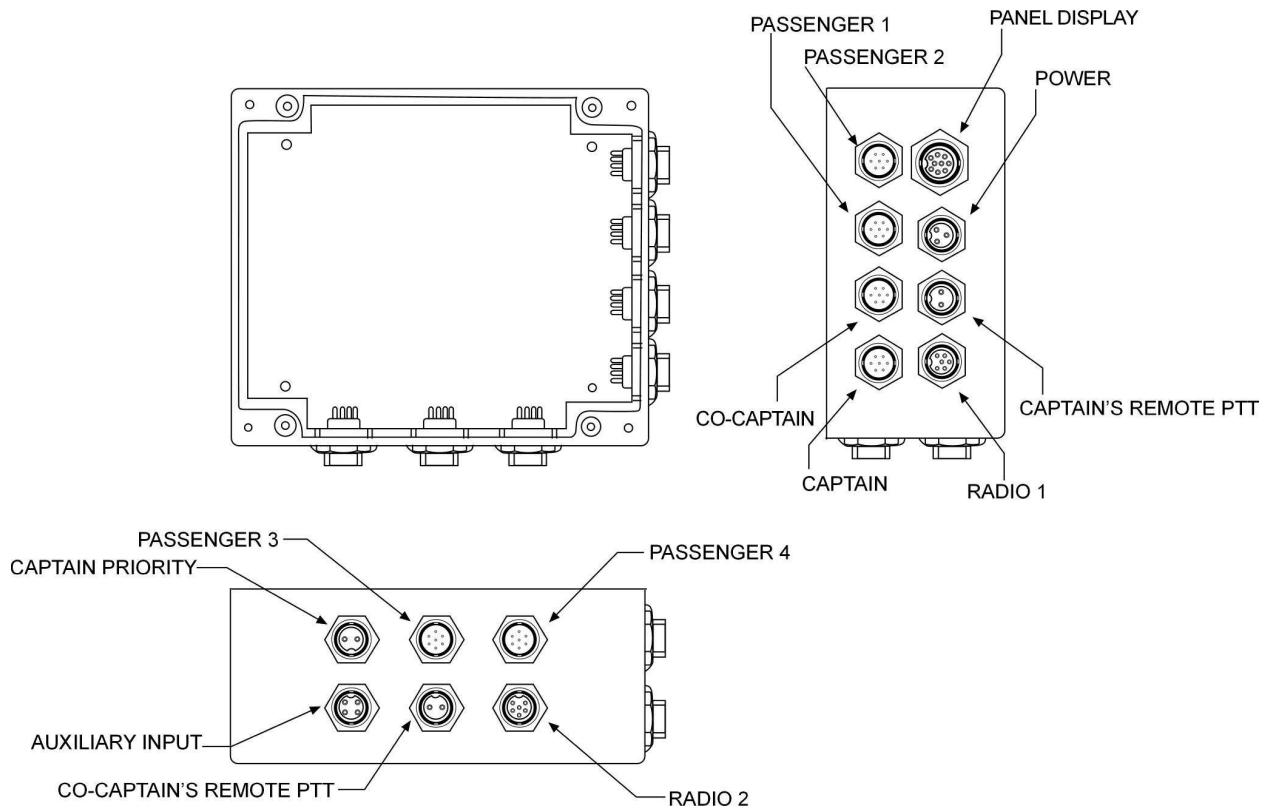

Figure 2: Master Station Connections
9. Determine which Remote PTT switch this cable corresponds to (Captain or Co-Captain) and connect to the Master Station. See **Figure 2** for connector locations.